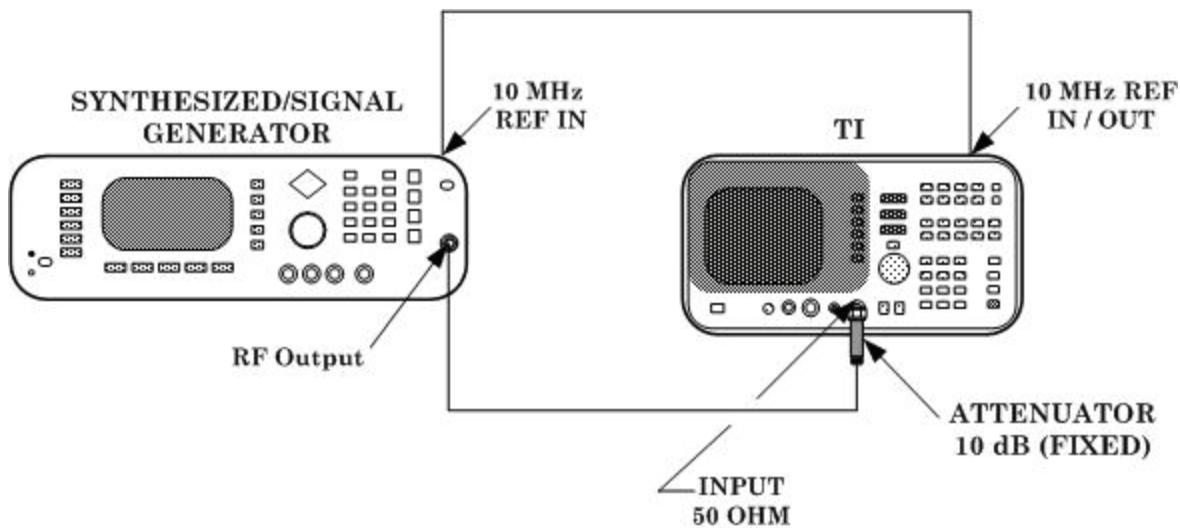

Figure 2. Input attenuator accuracy (2.9 GHz) - equipment setup.
- (25) Repeat (24) above for each remaining **IF GAIN CORRECTION** listed in table 9.
(26) Connect equipment as shown in figure 2.